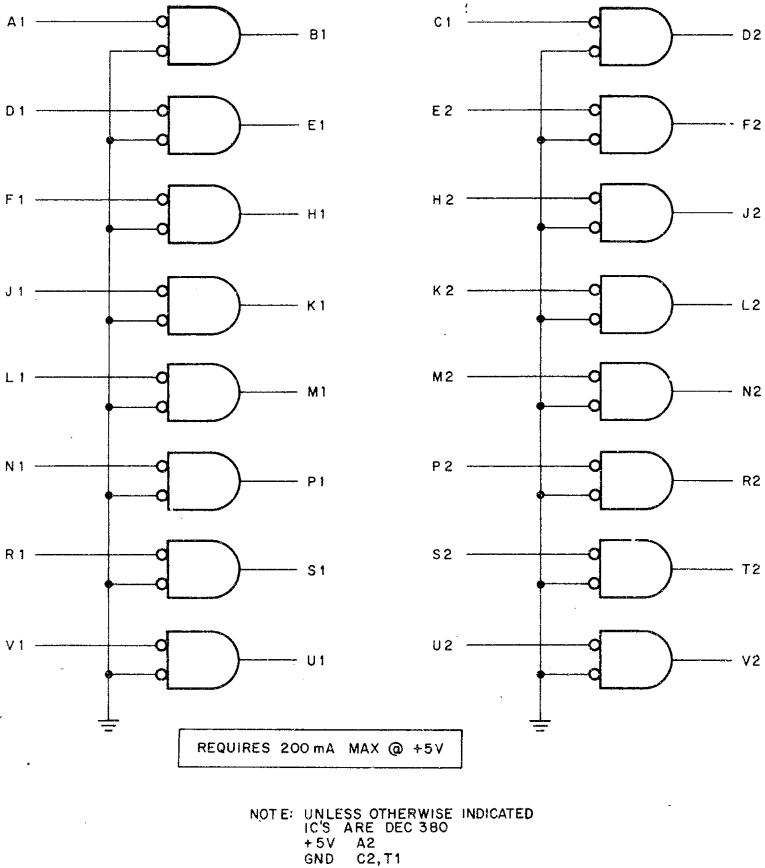

Figure 2-7 M784 UNIBUS Receiver (schematic diagram)
2.2.3.2 M784 UNIBUS Receiver- This receiver module consists of 16 DEC 380A inverting circuits which receive bus signals and provide a buffered bus signal output. The output fanout is seven standard TTL unit loads. The receiver module is a single-height, 8.5-inch-long Flip-Chip. A circuit schematic of the M784 Receiver Module is shown in Figure 2-7.